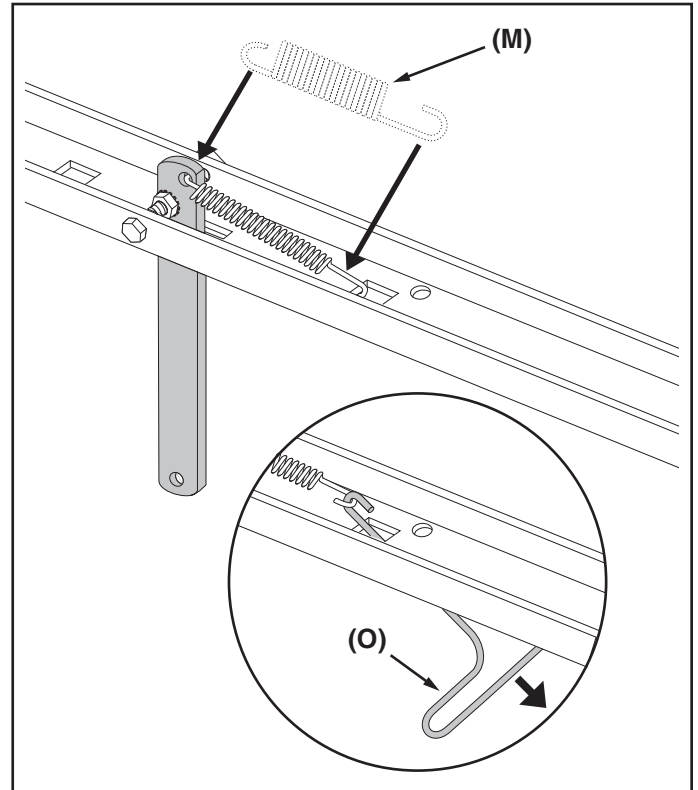

FIGURE 2
STEP 2: (SEE FIGURE 2)
- Hook the **short** end of the spring (M) into the hole in the latch lock lever. Use the spring puller tool (O) to hook the **long** end of the spring into the square hole in the tongue. The spring puller tool can be stored when finished.